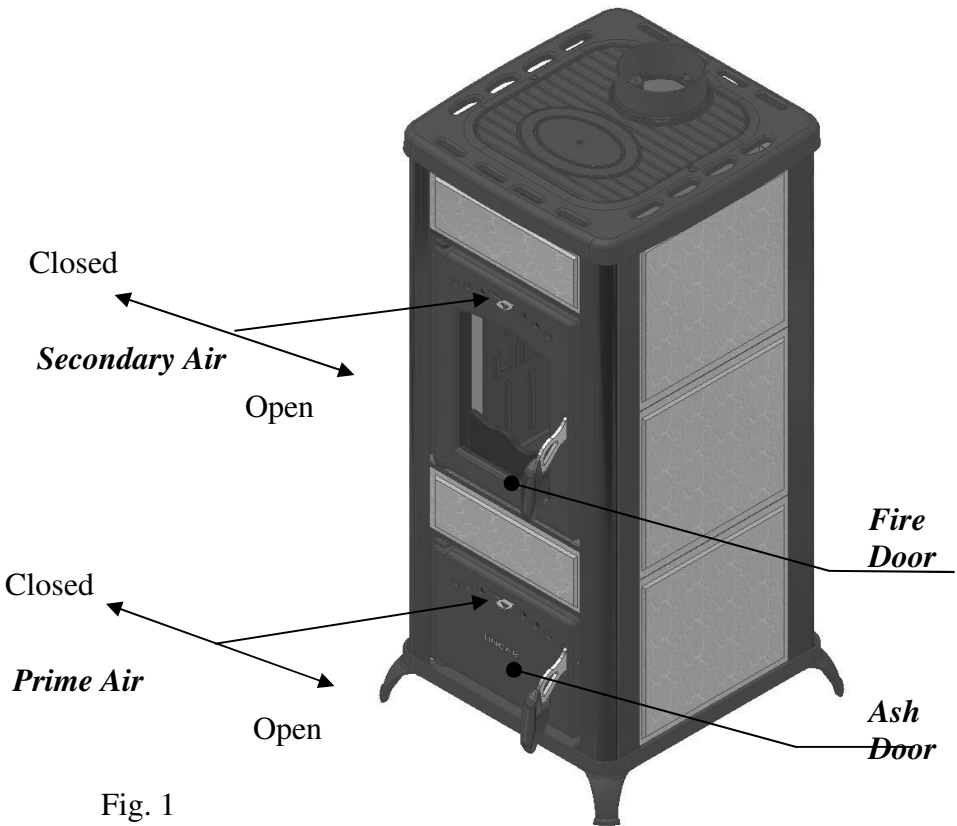

Fig. 1
**SHAKING FOYER GRATE** (Fig.1 – Fig.2)